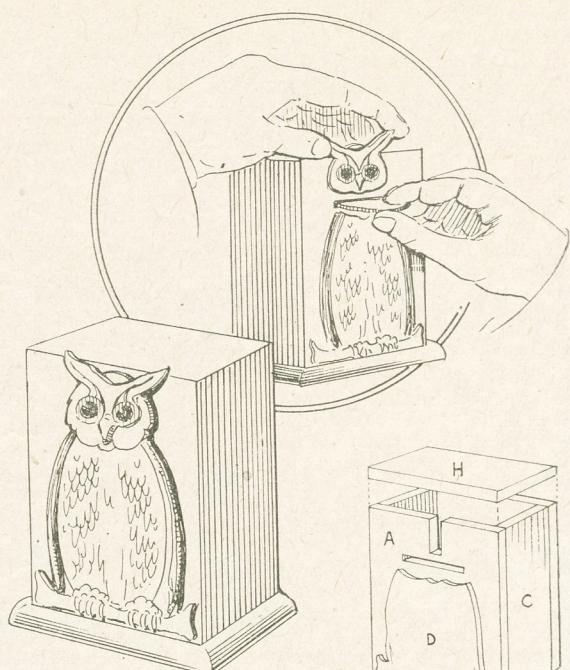

Fig. 1—The box and its money slot
The base (A) of the box should have its three top edges rounded off neatly with file and glass-paper and look like the finished thing in Fig. 1. The two ends of the box measure $4\frac{1}{2}$ ins. by $1\frac{1}{2}$ ins. and they will be glued between the back and the front. Fig. 2 shows this and also the general construction of the box.